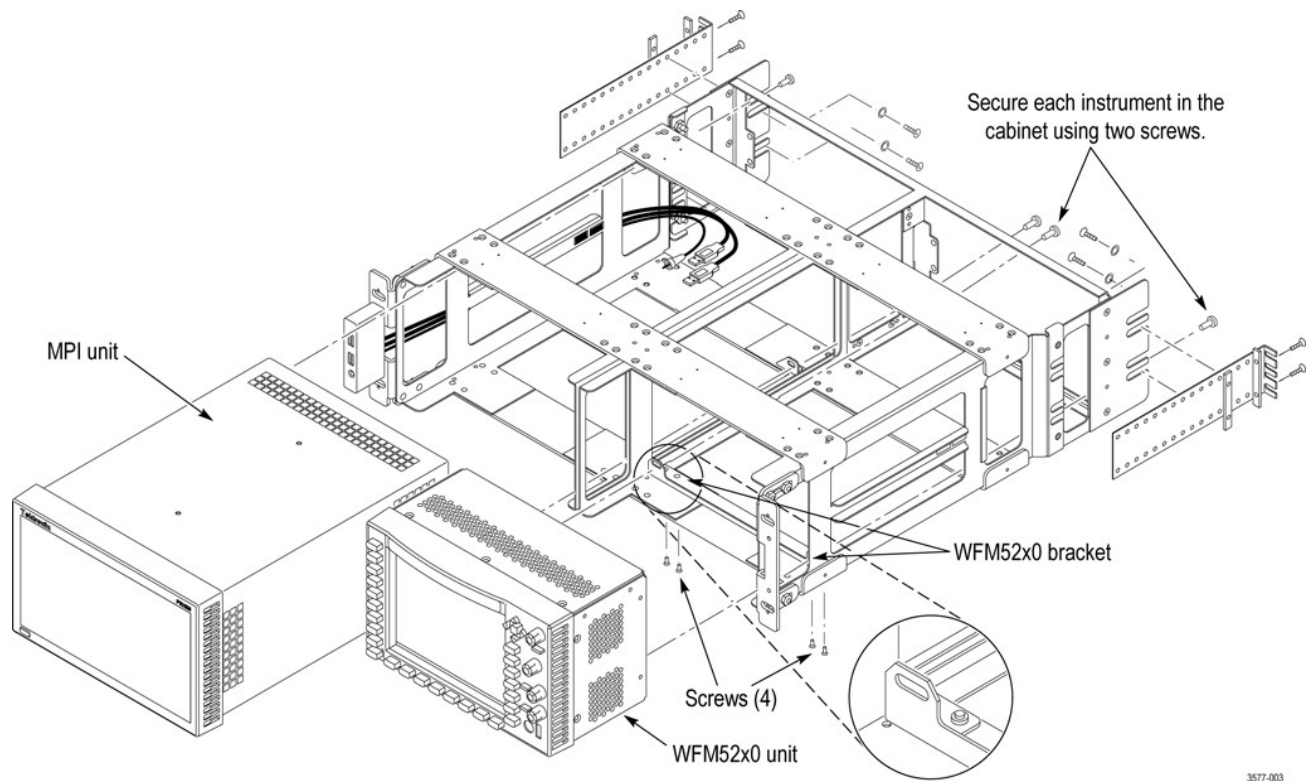
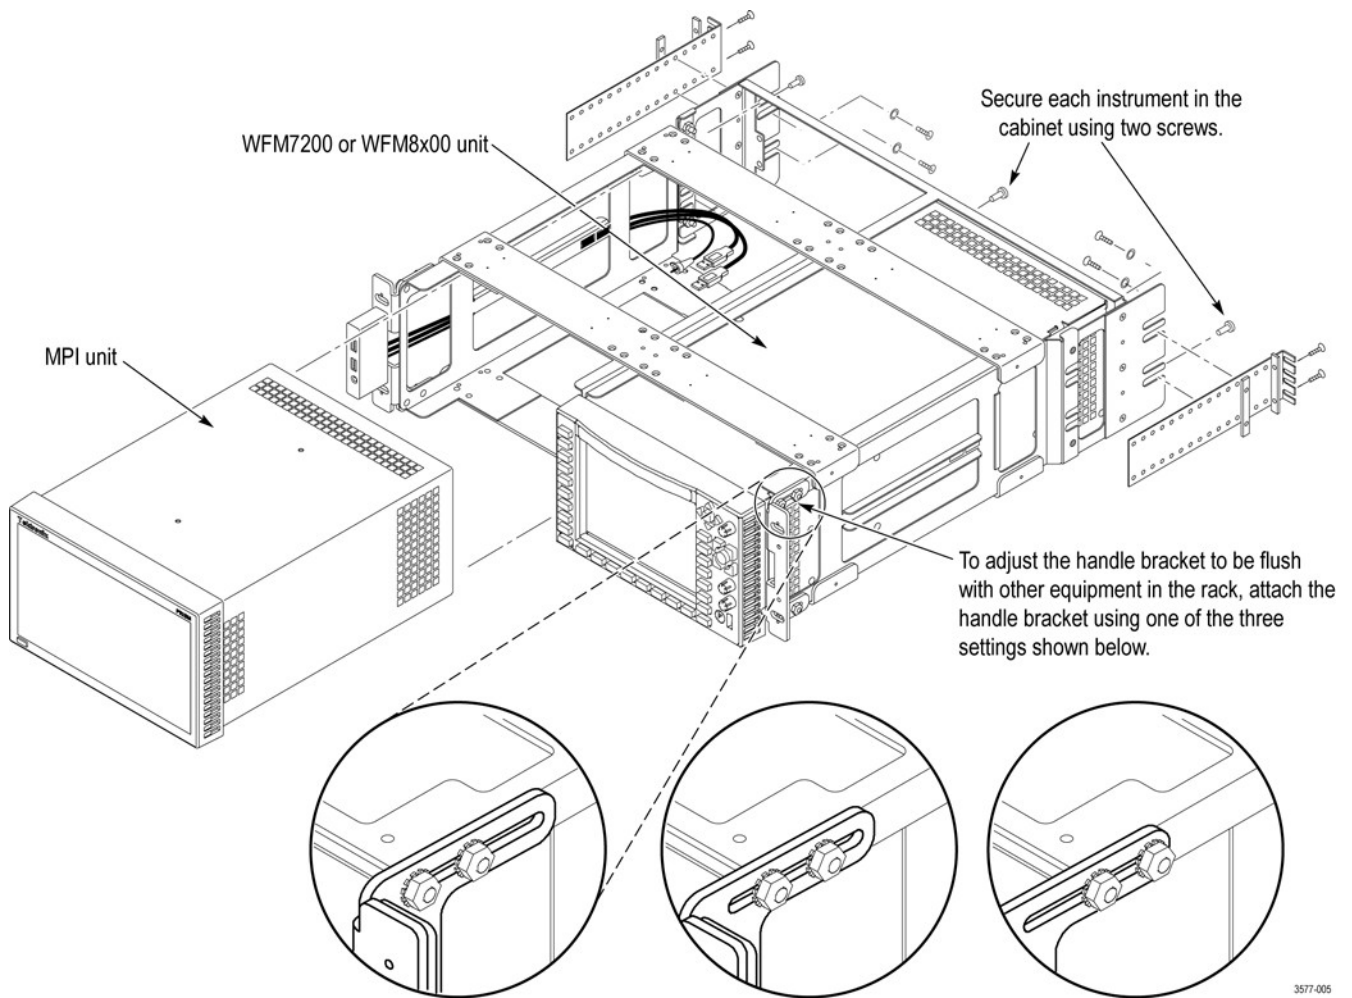
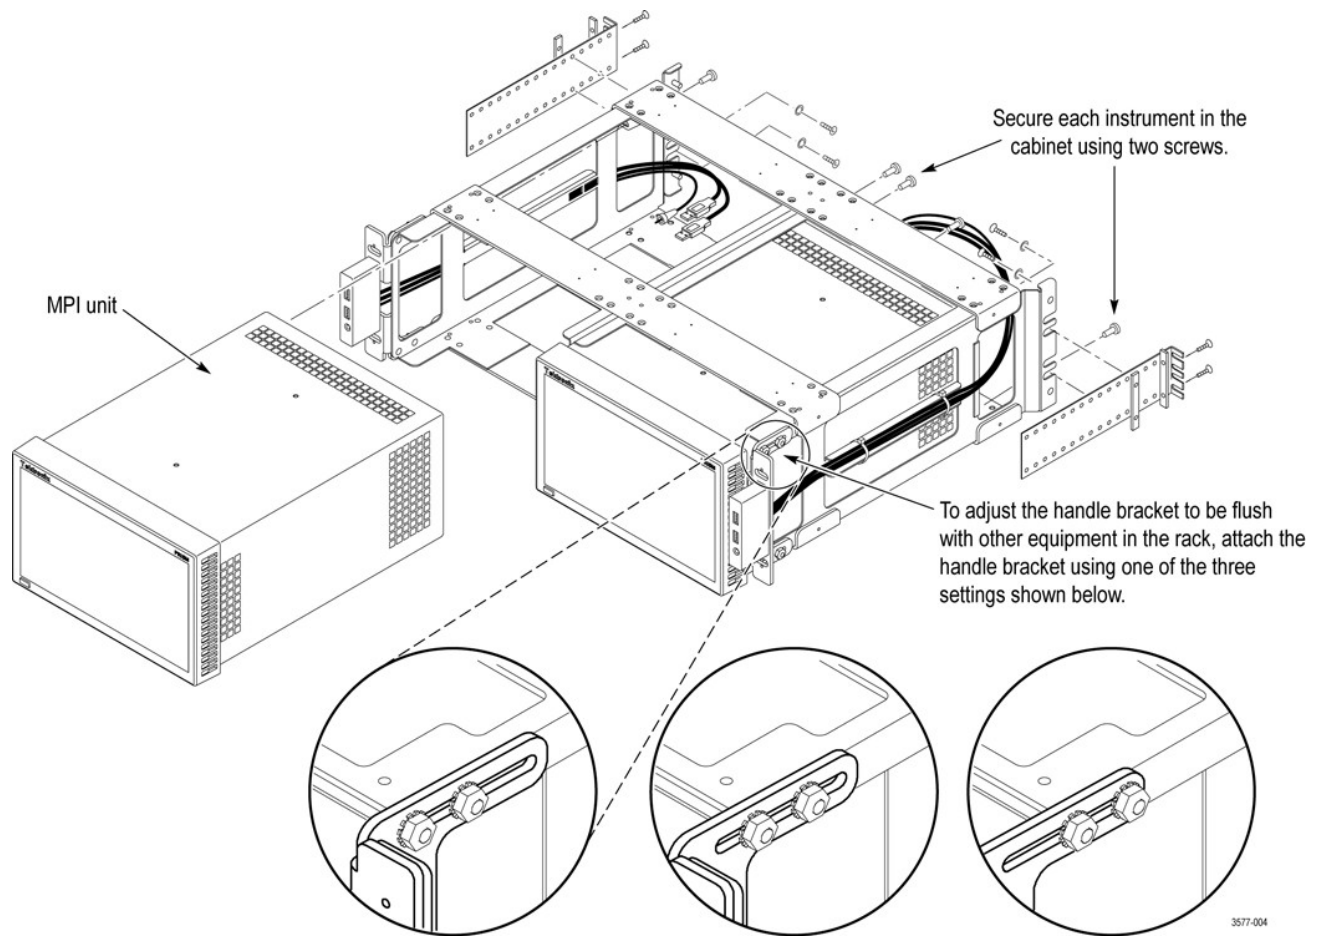

Figure 3: Installation of one MPI monitor and one WFM52x0 waveform monitor in the MPI-RACK-MW dual rack cabinet
Figure 4: Installation of one MPI monitor and one WFM7200 or WFM8x00 waveform monitor in the MPI-RACK-MW dual rack cabinet
Figure 5: Installation of two MPI monitors in the MPI-RACK-MM dual rack cabinet
1. Position the dual rack cabinet so the headphone port(s) on the front of the cabinet is on the bottom. (See Figure 3.)
- a. Install the WFM52x0 bracket (item 8 in Table 5) in the right side of the cabinet as shown. (See Figure 3.)
- b. Use a screwdriver with a TORX T-10 tip to attach the WFM52x0 bracket to the cabinet with four 6-32 X 0.312 screws (item 9 in Table 5).
3. You can adjust the position of the handle brackets to mount the adapter flush with other equipment in the rack. To do this, loosen the nuts that attach the handle brackets to the rack adapter, adjust the position of the handle brackets as needed, and then tighten the nuts securely. (See Figure 4.)
4. Use a screwdriver with a PosiDriv tip to attach the rack adapter assembly to the front frame of the rack with four 10-32 X 0.750 screws (item 6 in Table 4) and four shoulder washers (item 5 in Table 5).
5. Use a screwdriver with a Phillips tip to install one guide bracket (item 7 in Table 5) to one side of the rear frame of the rack with two 10-32 X 0.625 screws (item 2 in Table 5) and one nut bar (item 1 in Table 5) as shown. (See Figure 3.)
6. Use a screwdriver with a Phillips tip to attach the guide bracket to the cabinet with two 10-32 X 0.625 screws (item 2 in Table 5), two washers (item 4 in Table 5) and one nut bar (item 1 in Table 5). Use the holes in the bracket that will accommodate the depth of the instrument rack frame being used. Leave the screws loose.
1. Install an MPI monitor in the dual rack cabinet: (See Figure 3, Figure 4, and Figure 5.)
- a. Install a Telestream WFM52x0, WFM7200, or WFM8x00 waveform monitor in the right slot of the dual rack cabinet. (See Figure 3 and Figure 4.)
- b. Use a screwdriver with a TORX T-15 tip to secure the waveform monitor in the dual rack cabinet with two 10-32 X 0.625 screws (item 3 in Table 5). The screws attach to the right and left holes in the middle of the instrument chassis as viewed from the rear.